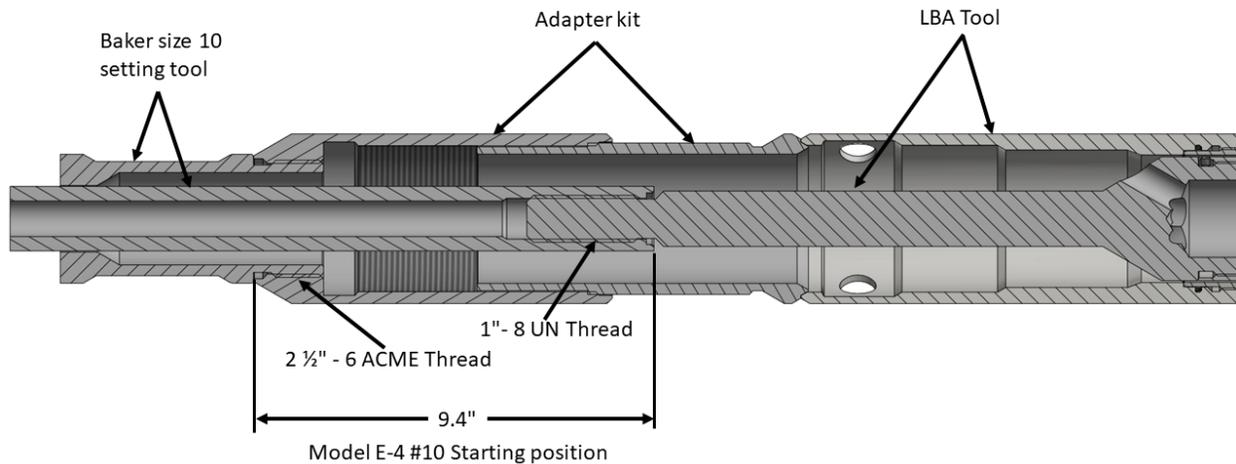

Figure 3: Wireline Adapter Kit
- 1) Use an internal cutting tool to cut 2.360" ID mandrel between 30" and 40" below the top of the tool. See Figure 3 for more fishing dimensions. Mandrel OD is 2.717" so it is best to limit OD of cutters to 2.80".